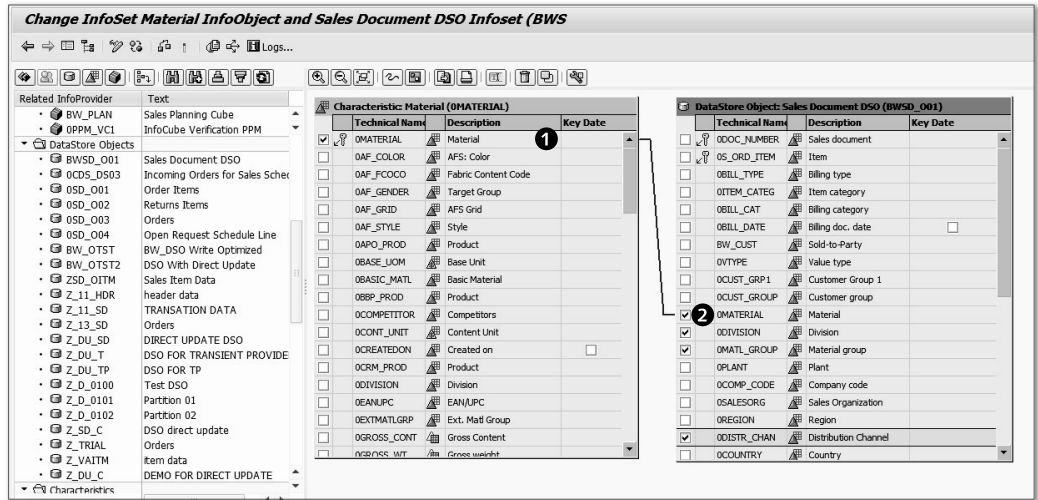

Figure 6.25 Joining Two Sources
SAP BW now creates a join between the OMATERIAL field of the T00001 source object and the OMATERIAL field of the T00002 source object. This is shown as a link from ❶ to ❷ in Figure 6.25. Internally, SAP BW makes this a join condition similar to *T00001.OMATERIAL = T00002.OMATERIAL*.